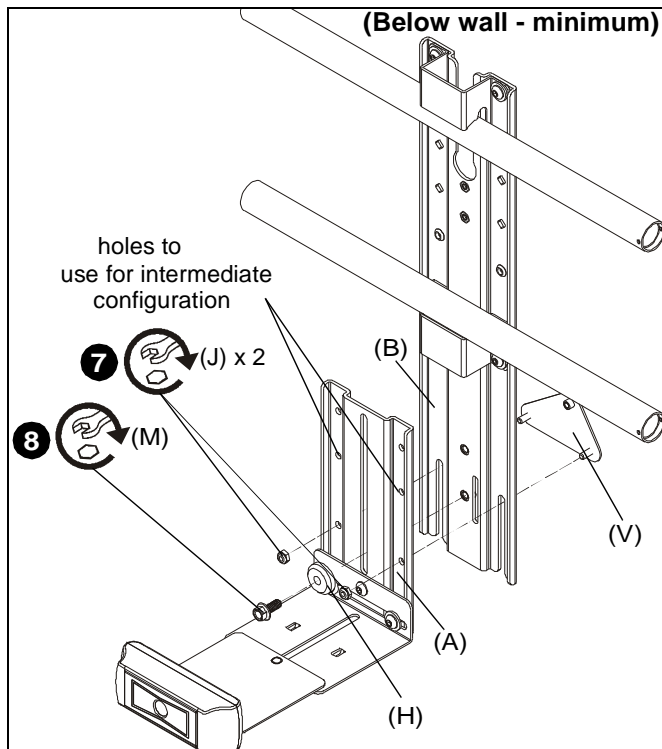

Figure 8
7. (For **minimum/intermediate extension**) Use two #10-24 lock nuts (J) to secure upright bracket (A) to main bracket (B) and adapter plate (V). (See Figure 8)
8. (For **minimum/intermediate extension**) Use 1/4-20 x 5/8" hex head flange bolt (M) and center washer (H) to secure upright bracket (A) to main bracket (B). (See Figure 8)